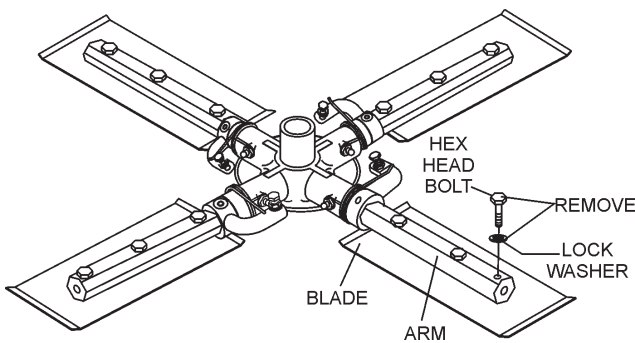

Figure 39. Trowel Blades
- Remove the trowel blades from the trowel arm by removing the hex head bolts (Figure 39) from the trowel arm. The 36" model will have two hex head bolts per arm and the 46" model will have three hex head bolts per arm. Set blades aside.